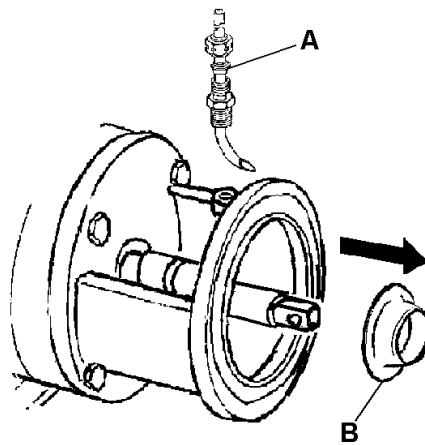

Figure 11
- Remove the water cascade attachment from the adapter (if included (see Figure 11, item A)). Remove the rubber shaft deflector (see Figure 11, item B), by pulling it straight off the stub shaft. Examine it for tearing, loose fit, or other defects that would allow liquid to leak into the motor along the shaft.